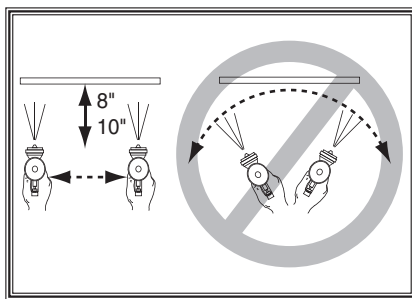

Figure 10. Spray technique.
11. Keep the gun tip perpendicular, parallel, and 8-10" from the work at all times when spraying, as shown in **Figure 10**. Do not allow your wrist to bend. This will cause the gun to arc across the surface and distribute the material unevenly, possibly creating sags and dry spots.